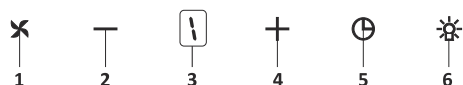

Fig. 15: 5 Spd Dig Button
1. ➤ Press this button to turn on the product.Fig. 15
2. ➤ Press this button to decrease the motor speed.Fig. 15
3. ➤ Dig display You can follow which speed the product is currently working on this display.Fig. 15
4. ➤ Press this button to increase the motor speed.Fig. 15
5. ➤ When timer button is pressed, a 15-minute timer function will be activated; display will give a signal once the timer starts and the motor will stop automatically after 15 minutes.Fig. 15
6. ➤ Press this button to turn on and off the lamp.Fig. 15